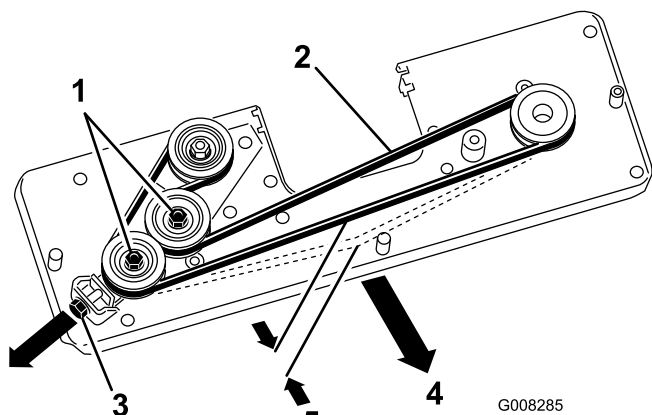

Figure 37
4. Loosen the 2 hex nuts on the idler pulley (Figure 37).
5. Adjust the M10 nut until the belt flexes 5 mm with 30 N of force (Figure 37).